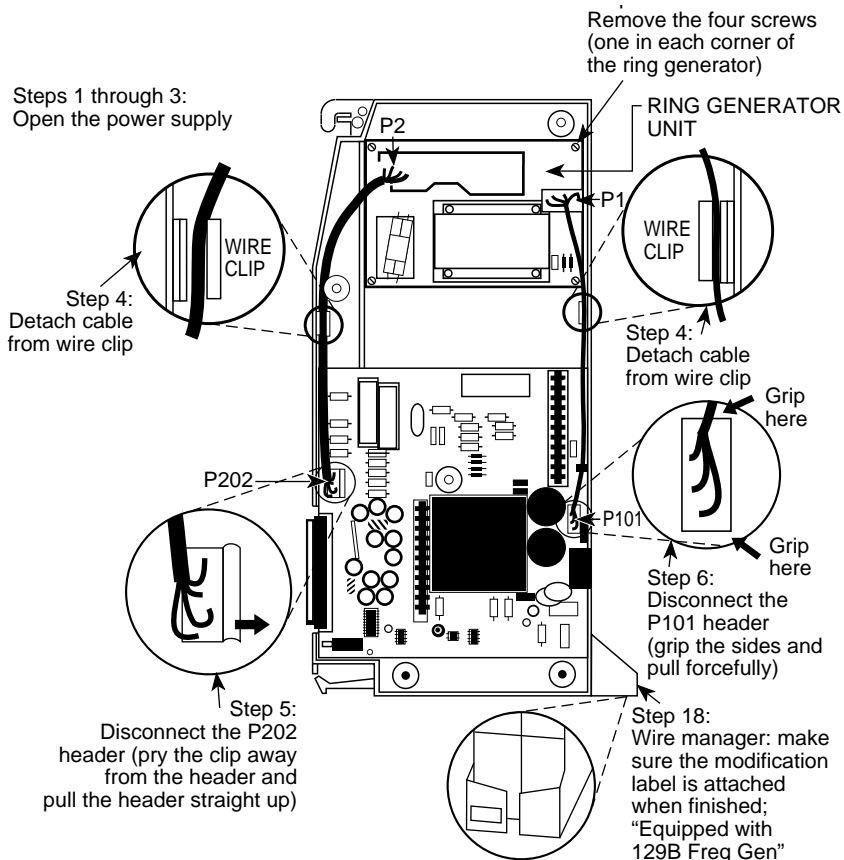

Figure 4-2. Replacing a Ring Generator
To replace the ring generator, follow the steps below. Refer to Figure 4-2 throughout the procedure.
- ▶ 7. **Remove the four screws from the ring generator, as shown in Figure 4-2.**
- ▶ 9. **Position the replacement ring generator, as shown in Figure 4-2. Align the screw holes.**
- ▶ 18. Verify that the modification label (Equipped with 129B Freq Gen) is attached to the front of the power supply (shown in Figure 4-2). If not, attach the label supplied with the new ring generator.